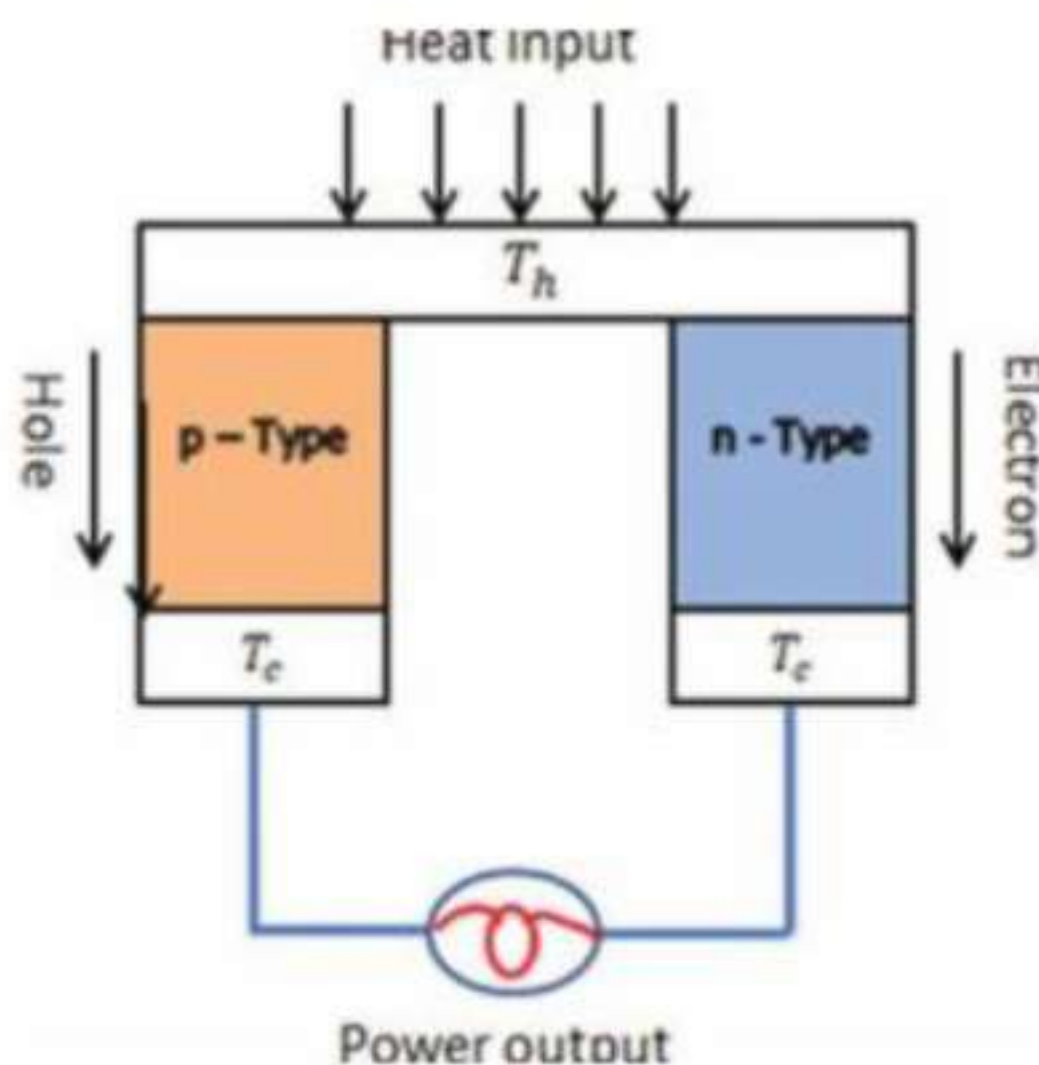

Figure 4.4: Thermoelectric Generator
**Construction:** The simplest thermoelectric generator consists (figure 4.4) of a thermocouple, comprising a p-type and n-type thermo-element connected electrically in series and thermally in parallel (Fig). The P-type and N-type semiconductors are interconnected through a metal. Load is connected to free end of P and N type semiconductors.